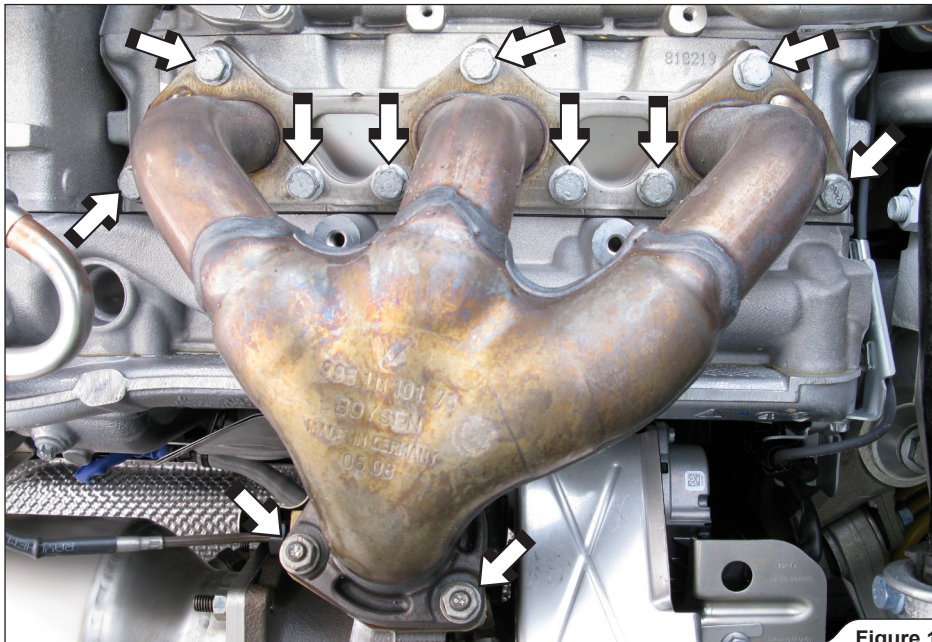

Figure 1
1. **For Evolution Race and Upgrade Kit1/2:** unscrew marked bolts and nuts of the stock header-tubes on both sides of the vehicle (**Figure 1**). Remove the headers off the vehicle.